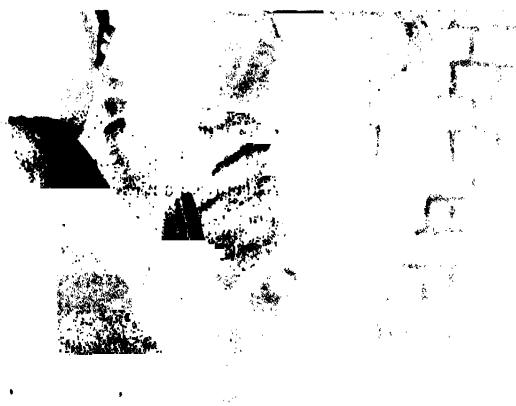

Fig. 39.
*To make the wood the required length.*—Using the try-square and marking knife draw a continuous line at right angles to the edges, about  $\frac{1}{8}$ " from one end. Fig. 39 shows how this is done. The try-square is